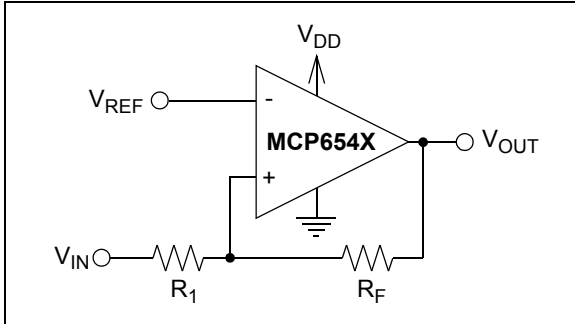
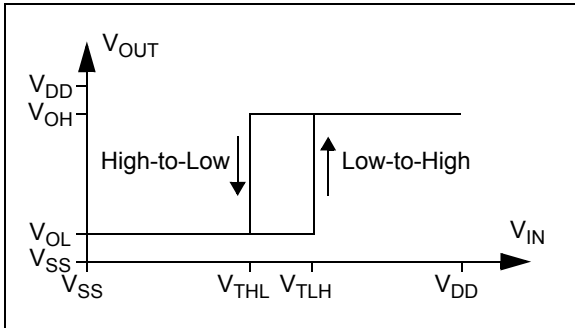

FIGURE 3-3: Non-inverting circuit with hysteresis for single-supply.
FIGURE 3-4: Hysteresis Diagram for the Non-Inverting Circuit.
Figure 3-3 shows a non-inverting circuit for single-supply applications using just two resistors. The resulting hysteresis diagram is shown in Figure 3-4.
The trip points for Figures 3-3 and 3-4 are:
2. Non-inverting Configuration (Figure 3-3):